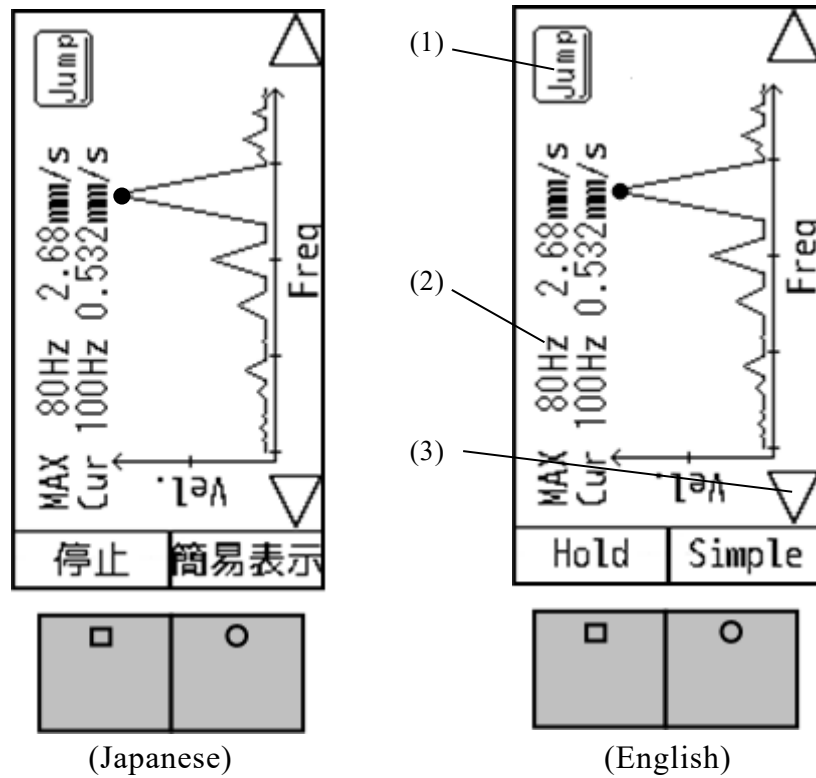

Fig.5-3 Detail of FFT
(2) Maximum frequency and its value.
(3) Details will appear as you press “Function Button” (Fig.5-3).